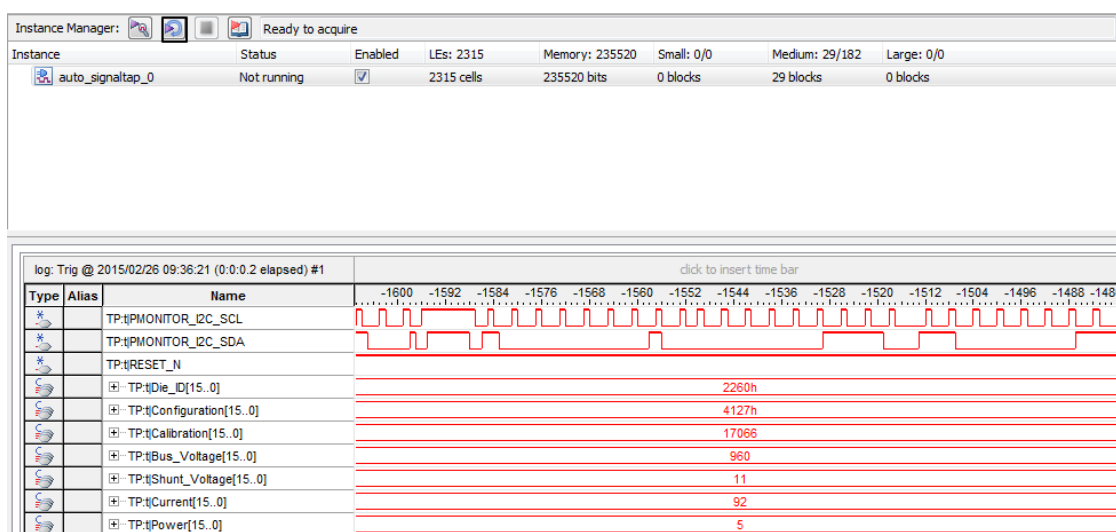

Figure 5-7 Reading the register value of voltage and current via I2C interface
- QuartusII SignalTap II will be activated as shown in **Figure 5-7**.